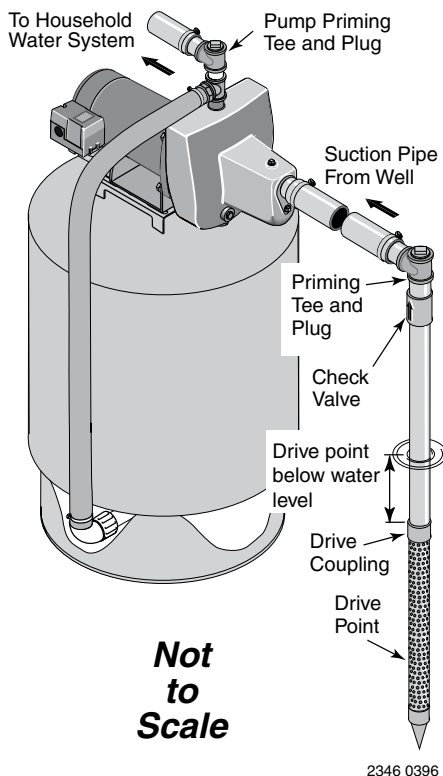

Figure 1: Driven Point Installation
WELL POINT (DRIVEN POINT) INSTALLATION (FIGURE 1)
- Step 3. Use the fewest possible fittings (especially elbows) when connecting the pipe from the well point to the pump suction port. The suction pipe should be at least as large as the suction port on the pump (include a check valve if your pump is not equipped with one – see Figure 1). Support the pipe so that there are no dips or sags in the pipe, so it doesn’t strain the pump body, and so that it slopes slightly upward from the well to the pump (high spots can cause air pockets which can air lock the pump). Seal the suction pipe joints with PTFE pipe thread sealant tape. Joints must be air- and water-tight. *If the suction pipe can suck air, the pump cannot pull water from the well.* If one well point does not supply enough water, consider connecting two or three well points to one suction pipe.